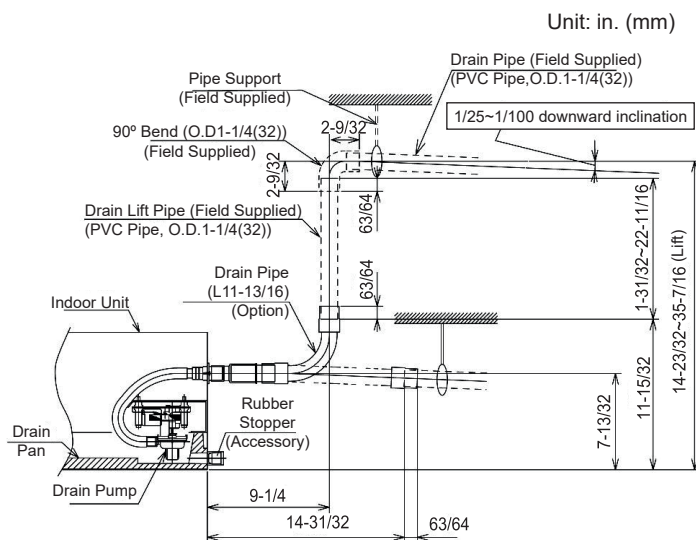

Fig. 6.1 Drain Pipe
- (1) See Fig. 6.1 for connection point of drain pipe.
- (2) Find a PVC pipe with an outside diameter of 1-1/4in. (32mm).
- (3) Fix the PVC pipe to drain pipe through adhesive and factory-supplied clamp. The downward inclination of drain pipe is 1/25~1/100.
- (4) Make thermal insulation after the proper connection of drain pipe.